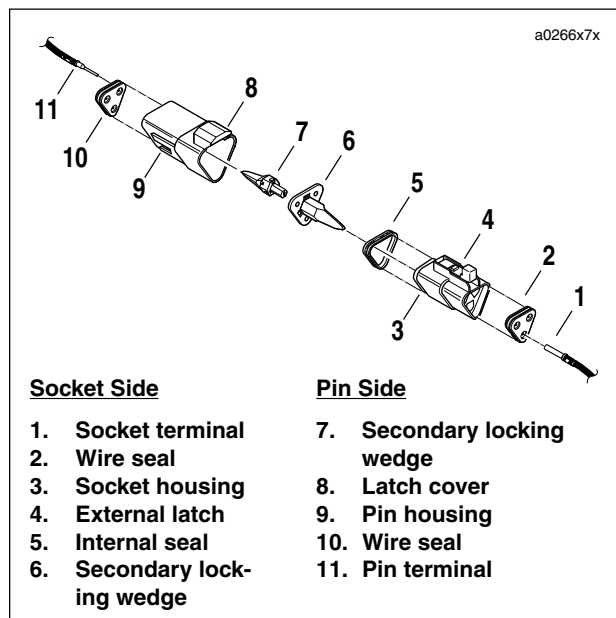

Figure B-1. 3-Pin Connector
1. See Figure B-1. Remove the secondary locking wedge (6). Insert the blade of a small screwdriver between the socket housing and locking wedge in—line with the groove (in—line with the pin holes if the groove is absent). Turn the screwdriver 90° to pop the wedge up.
2. Gently depress terminal latches inside socket housing (3) and back out socket terminals (1) through holes in rear wire seal (2).
3. Fit rear wire seal (2) into back of socket housing, if removed. Grasp socket terminal approximately 1.0 in. (25.4 mm) behind the contact barrel. Gently push sockets through holes in wire seal into their respective chambers. Feed socket into chamber until it “clicks” in place. Verify that socket will not back out of chamber; a slight tug on the wire will confirm that it is properly locked in place.
4. Install internal seal (5) on lip of socket housing, if removed. Insert tapered end of secondary locking wedge (6) into socket housing and press down until it snaps in place. The wedge fits into the center groove within the socket housing and holds the terminal latches tightly closed.
1. See Figure B-1. Remove the secondary locking wedge (7). Use the hooked end of a stiff piece of mechanic's wire or a needle nose pliers, whichever is most suitable.
2. Gently depress terminal latches inside pin housing (9) and back out pin terminals (11) through holes in wire seal (10).
3. Fit wire seal (10) into back of pin housing (9). Grasp crimped pin approximately 1.0 in. (25.4 mm) behind the contact barrel. Gently push pins through holes in wire seal into their respective numbered locations. Feed pin into chamber until it “clicks” in place. Verify that pin will not back out of chamber; a slight tug on the wire will confirm that it is properly locked in place.
4. Insert tapered end of secondary locking wedge (7) into pin housing (9) and press down until it snaps in place. The wedge fits in the center groove within the pin housing and holds the terminal latches tightly closed.